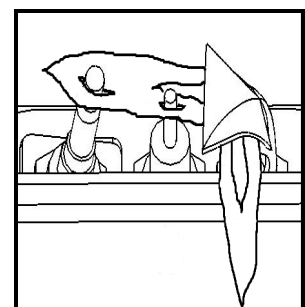

FIG. 2
4. Wait five (5) minutes to clear out any gas. Then smell for gas including near the floor. If you smell gas, STOP! Follow "B" in the safety information above. If you don't smell gas, proceed to step 5.
6. Continuing beeps confirm the ignition is in process. Once lighting the pilot flame should appear as shown in Fig.2. Once the pilot is confirmed, the main burner ignites on high.
Periodically check the pilot and burner flames, comparing them to figure 2 on page 32, and the image at the bottom of this page.